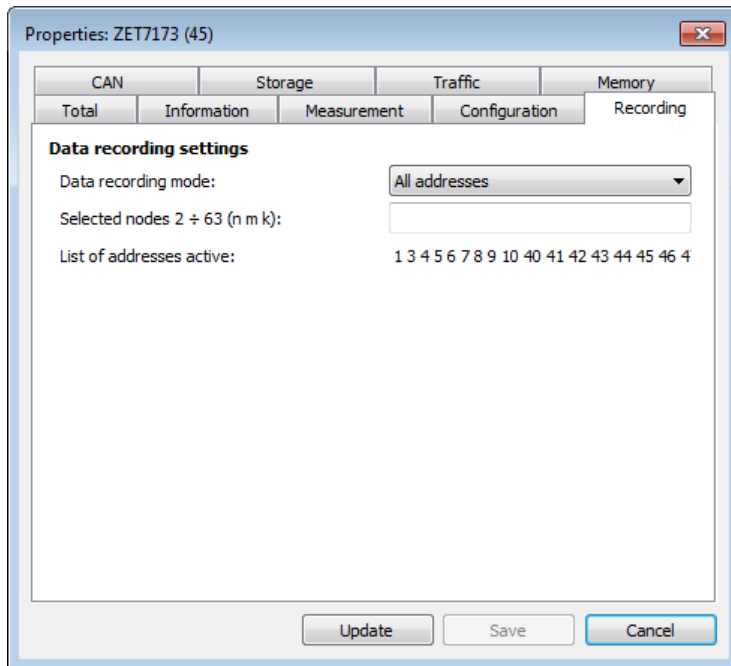

Figure 2.14 ZET 7173 – “Recording” tab
- Select “All addresses” in the field “Data recording mode” of the “Recording” tab (*Figure 2.14*).